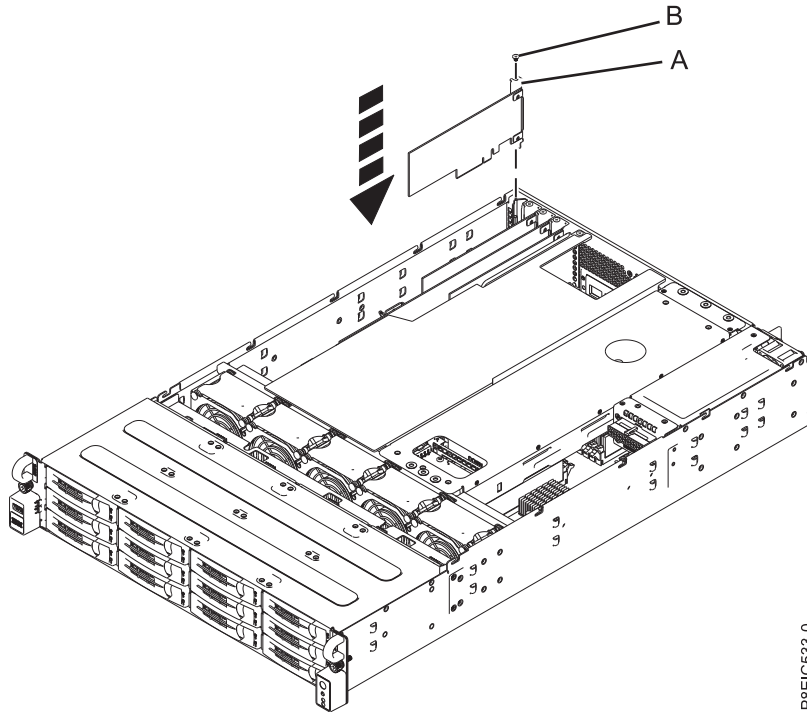

Figure 25. Installing the (FC EC3Y) PCIe Gen3 x8, LP adapter (A) and screw (B) in the system
- c. Insert the retaining screw **(B)** and tighten it to secure the (FC EC3Y) PCIe Gen3 x8, LP adapter **(A)** in the system, as shown in Figure 25 on page 27.